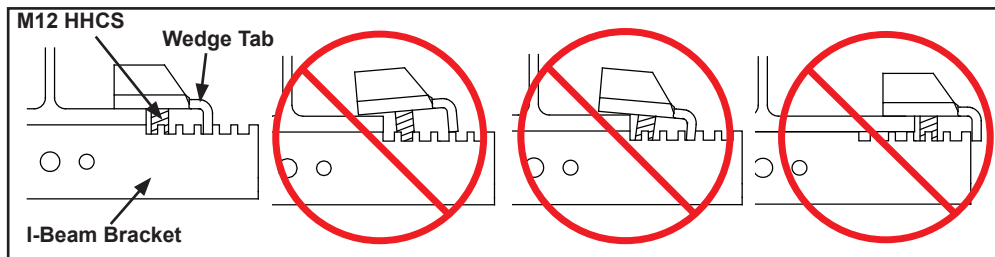

Figure 3-66A
Step 5. Slide wedge tabs in toward web of beam until wedges contact I-Beam flange sides. See Figure 3-66A below.